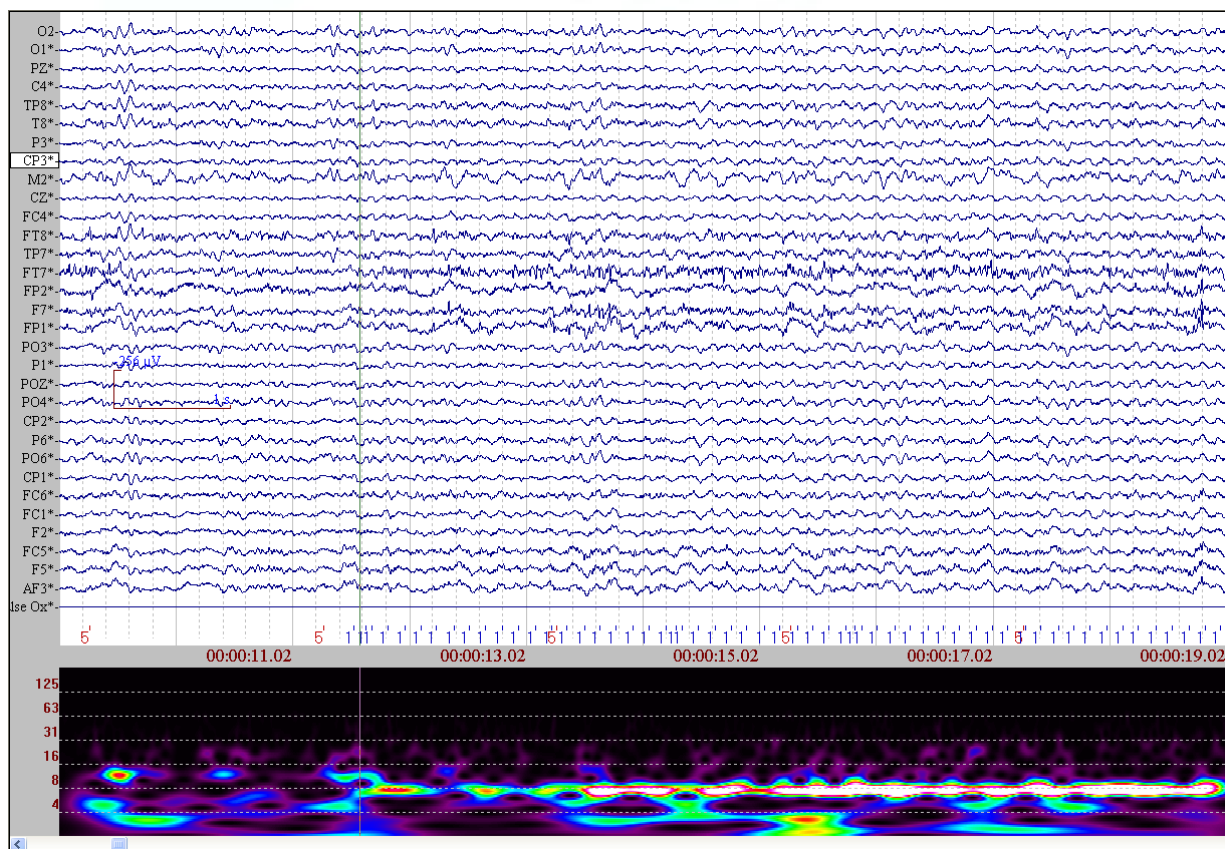

Figure 2. EEG Post Correction
The main feature to note is the effective real-time removal of the scanner artifact using clock synchronization (Figure 2). The stimuli were presented to induce a recognizable change in the recordings, and this can be clearly seen.
The color display at the bottom of Figure 2 shows the results of the Continuous Wavelet Transform (CWT), where the power analyses for a selected channel (CP3) are shown over time. Frequency is represented on the y-axis and signal intensity is denoted from weak to strong by color changes from blue to white. Note the frequency specific increase at approximately 8Hz that occurs about 1.5 secs after the stimuli are presented, and continues throughout the rest of the displayed interval (the long, narrow, pink-white band). This is simply a verification that the EEG data are genuine.
**Figure 2. Corrected data, clock on.** The scanner artifact was removed. High pass filtering was applied to remove the DC offset. Note the low voltage of the residual artifact.